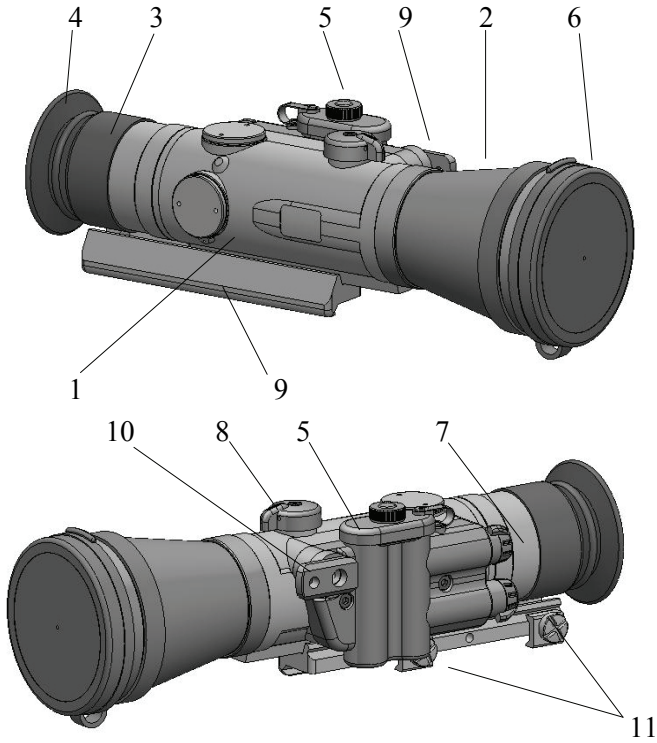

Fig.1
To install batteries unscrew the battery compartment cover 5 (Fig.1), insert batteries, observing correct polarity, and screw the cover back on.
1. Turn switch 7 (Fig.1) into ON position.
3. Turning the focus knob 8 (Fig.1) adjust focus to obtain the sharpest image visible through the eyepiece.
1. Take off the lens cap 6 (Fig.1)
2. Turn on the device using switch 7 (Fig.1)
3. By turning knob 8 (Fig.1) and eye-piece 3 (Fig.1) obtain clear image of the object.
2. Take off the lens cap 6 (Fig.1).
3. Turn on the device using on/off switch 7 (Fig.1). Greenish image must be seen through the daytime scope.
4. Select necessary zoom of the daytime scope. By turning knob 8 (Fig.1) of NVS 22-2XT acquire the target through daytime scope.
- 1) Loosen slightly the Clamp screw 11 (Fig. 1) of the adapter rail.
- 3) Tighten the fixing Clamp screws 11 (Fig. 1)